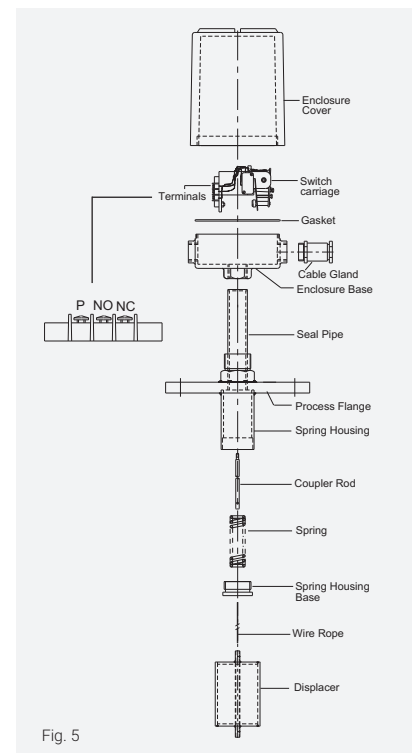

Fig. 5
2. PRE-INSTALLATION CHECK (Fig. 5)